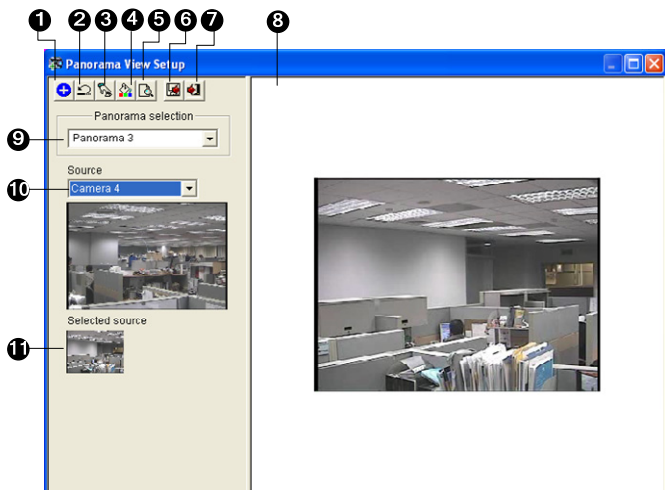

Figure 4-41
1. Select one panorama set (No. 9, Figure 4-41) from the drop-down list. If you want to rename the selected panorama set, type the name in the field.
2. Select one camera from the Source drop-down list (No. 10, Figure 4-41) and then click **Manual Setting** (No.3, Figure 4-41). This dialog box appears.
8. When you finish stitching images, click the **Save Before Exit** button (No.6, Figure 4-41) to save the created panorama view before exiting the Panorama View Setup dialog box.